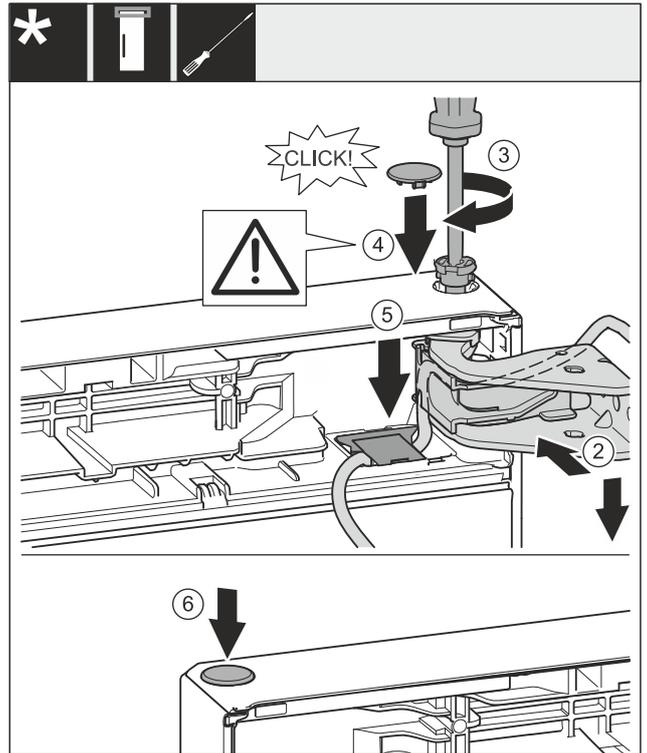

Fig. 31
- ▶ Align the top door with the opening in the swap bearing block. Fig. 31 (2)
- ▶ Insert the bolt and use screwdriver T15 to tighten it. Fig. 31 (3)
- ▶ Fit the safety cover to secure the door: Insert the safety cover and check whether the door is resting on it. Otherwise, insert the bolt fully. Fig. 31 (4)
- ▶ Insert the cover and push down until it engages. Fig. 31 (5)
- ▶ Insert the plug. Fig. 31 (6)